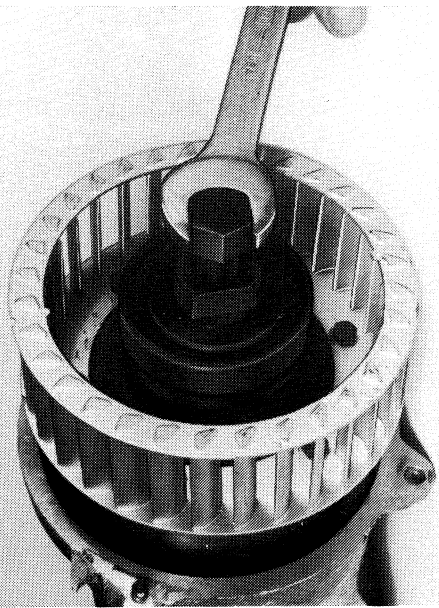

Figure 5-18. Proper Procedure For Flywheel Tool
8. See Figure 5-18. Remove the flywheel using FLYWHEEL PULLER, Part No. 97336-80.